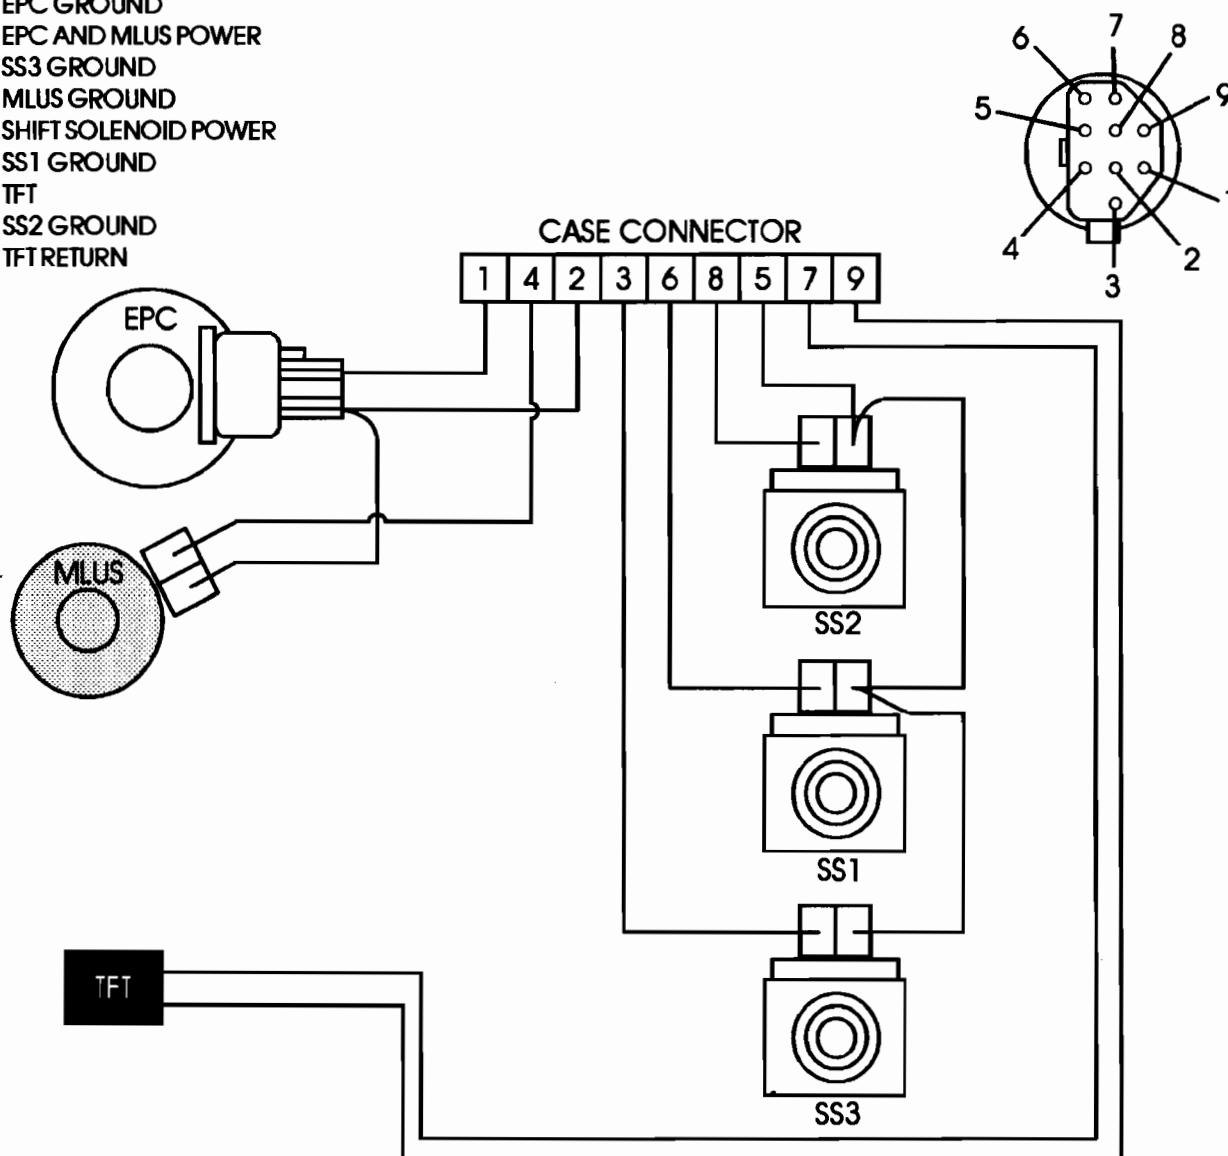

Figure 2
- Figure 2-Parking Pawl Return Spring